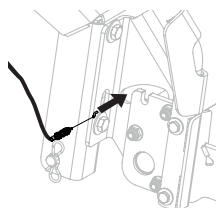

Figure 9
- With lift handle in up position and plow resting on the ground, feed one cable (746-04794) through arc-shaped hole in front mounting bracket assembly (689-02459) and frame. See Figure 9.